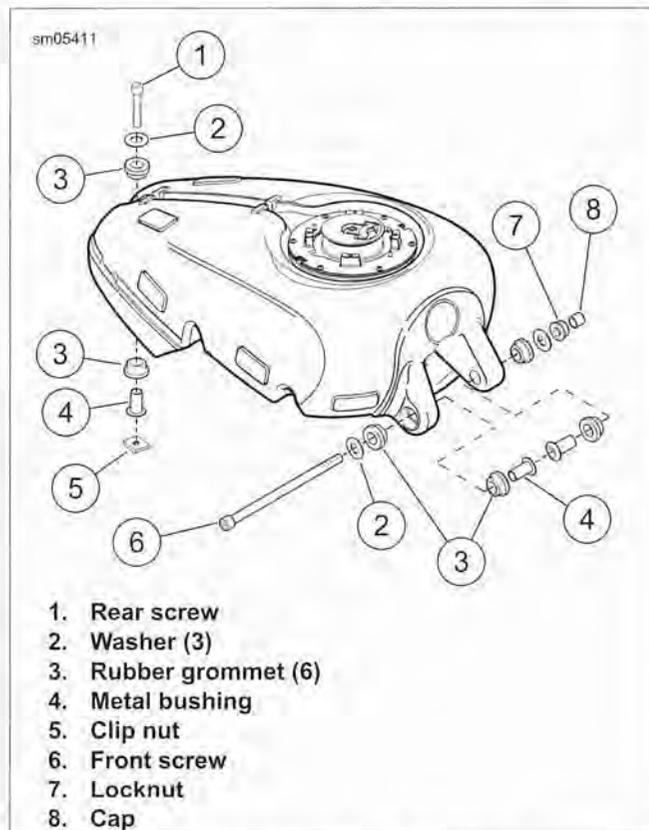

Figure 4-18. Fuel Tank Mounting
See Figure 4-18. Metal bushings (4) inside the grommets (3) may fall when fuel tank is lifted off vehicle. Make sure they do not fall out and become lost.
2. See Figure 4-18. Install rubber grommets (3) in both front mounting holes of fuel tank. Insert metal bushings (4) into rubber grommets, oriented as shown. Make certain clip nut (5) is installed on frame bracket.
4. Insert screw (6) with washer (2) through fuel tank front mounting brackets and vehicle frame. Install remaining washer and locknut (7) on other end of screw. Do not tighten at this time.